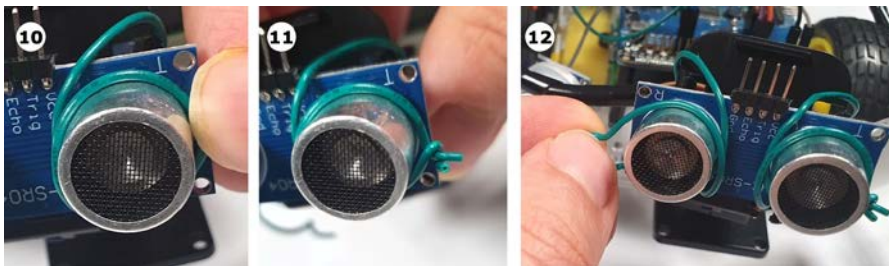

Figure 10.20 – Twist the wire and repeat for the right
11. Twist the top and bottom ends together, as shown in *Figure 10.20*.